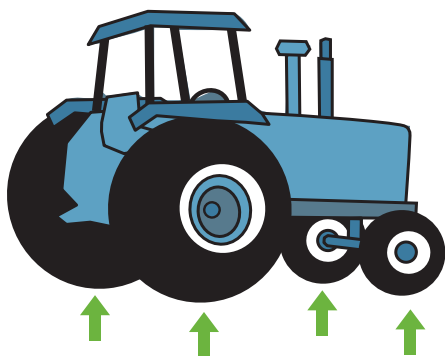

Figure 1. Tractor weight should be checked on both front and rear axles.
**NOTE:** if slippage cannot be easily checked and tractor axle weights are not known, they should be measured to gain confidence that fuel is not being wasted. Total tractor weight as well as the weight being carried on each axle can be conveniently checked on commercial scales at a grain elevator or co-op (Figure 1).